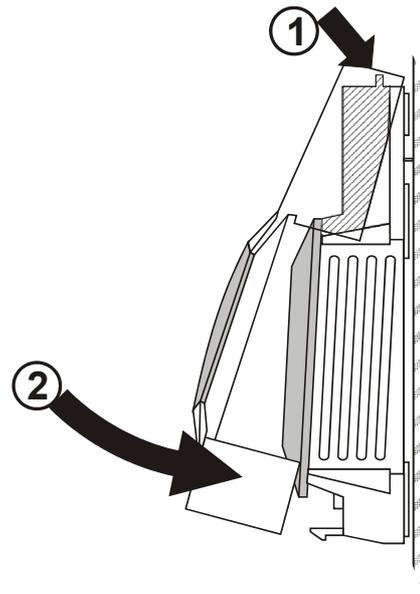

Fig. 4. Cover assembly
5. Remount the cover as shown in Fig. 4 and make sure that the tab on the underside engages.